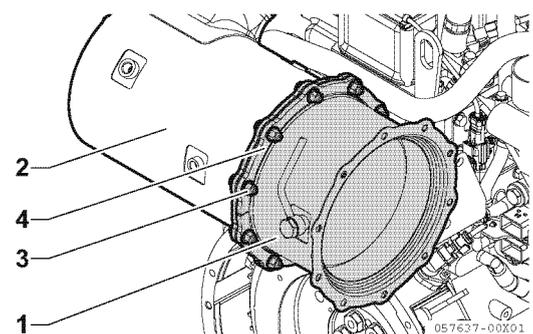

Figure 13-12
- Remove the M8 bolts and flange nuts (3, **Figure 13-12**) (8 or 10 of each) that fix the SF case (1, **Figure 13-12**) and DOC case (2, **Figure 13-12**).
- Remove the stiffeners (4 pcs.) (2 pcs. on each side) (4, **Figure 13-12**) that hold the mating surface of the SF case and DOC case flange, and remove the SF and SF case as a unit. Mark the stiffeners so that they can be reassembled in the original position.